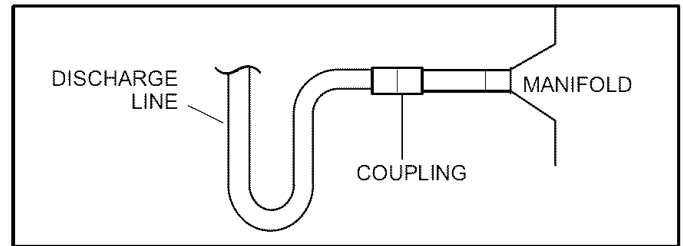

Figure 4. Replacement Discharge Line and Coupling
9. Align the discharge stub on the replacement coil with the discharge line from the compressor. Install the provided coupling between the two tubes. Sweat the coupling into place. See figure 4.